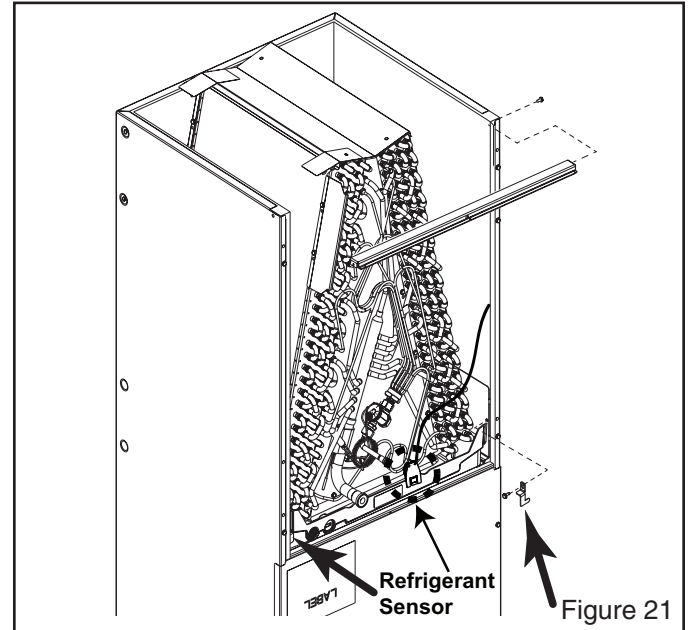

Figure 21
4. If equipped, reinstall refrigerant sensor in same location as before and reconnect. See Figure 21.
2. Reinstall coil retaining brackets. See Figure 21.
3. Reinstall lower horizontal brace(s). See Figure 21.